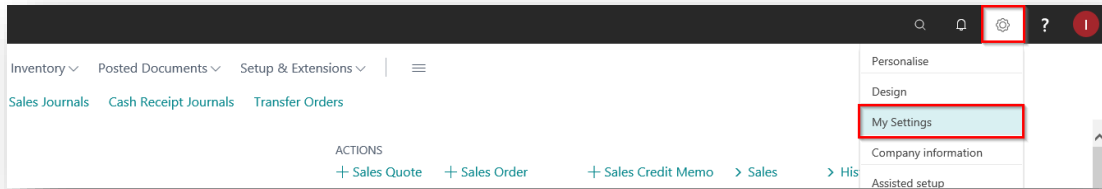

Figure 4-7
1. From your Dynamics 365 Business Central environment, in the app bar, select the **Settings** icon and then select **My Settings** (Figure 4-7).